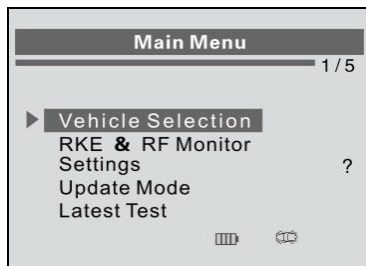

Figure 3.1
- 1) Use **UP/DOWN SCROLL** button to select **Vehicle Selection** from **Main Menu** (Figure 3.1), and press **Y** button to confirm.